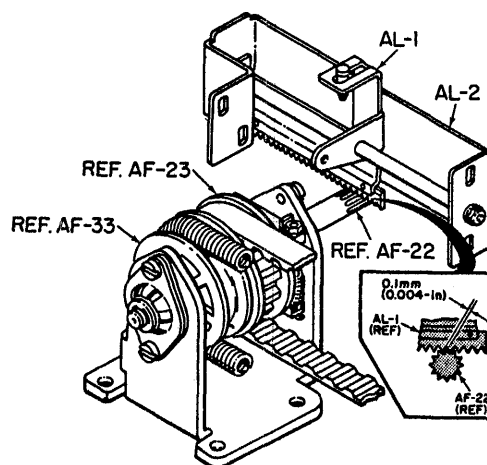

Figure 5-15. RACK AND PINION ADJUSTMENT, RIBBON MECHANISM
- 3). When performing next step (4), adjust guide plate so that rack is in a horizontal plane and meshes evenly with pinion gear when head is run out to extreme right by hand.
- 4). Maintain allowable standard backlash of 0.1 mm (0.004-in.) between rack and pinion teeth. (Move rack guide plate up or down into spline of shaft (AF-22) to establish backlash adjustment, (See Fig. 5-15).